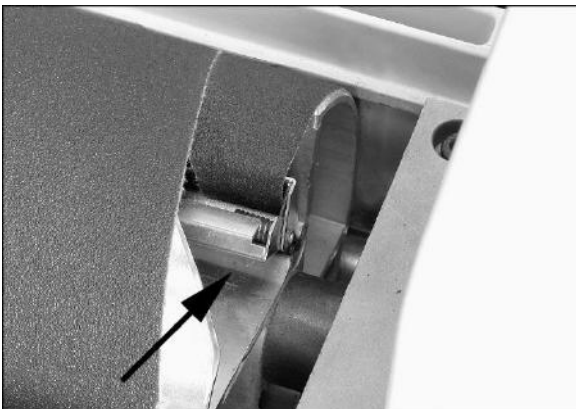

Figure 6-9
4. Press inboard take-up lever (Figure 6-9) and insert trailing end of strip as far as it will go. If necessary, trim tapered end of abrasive strip.